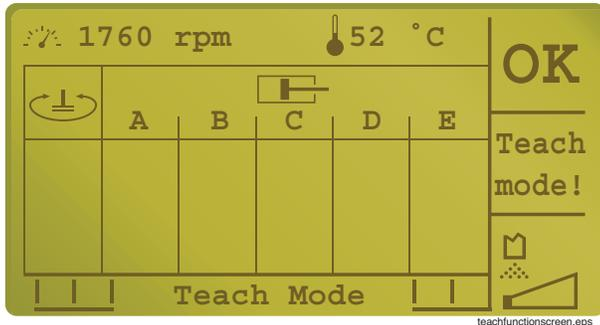

Figure 23
5. After activating the “I” switch, the display window will show you the screen in Figure 23. This chart shows you RPM, oil temperature, a picture of a boom cylinder, and six different boom options. The far left column is where the boom slewing adjustment will show, while columns A through E represent each boom section (A=1, B=2, C=3, D=4, and E=5 if you have a five section boom).
8. When the joystick is activated and the “I” switch is still being held down, the display will show a bar graph like the one shown in Figure 26, at which time the “I” switch can be released. The joystick, however, must remain activated or the screen will revert to the one shown in Figure 23 and you will need to start over at the previous step. The percentage shown on the graph indicates the amount of signal to this particular function (45%).